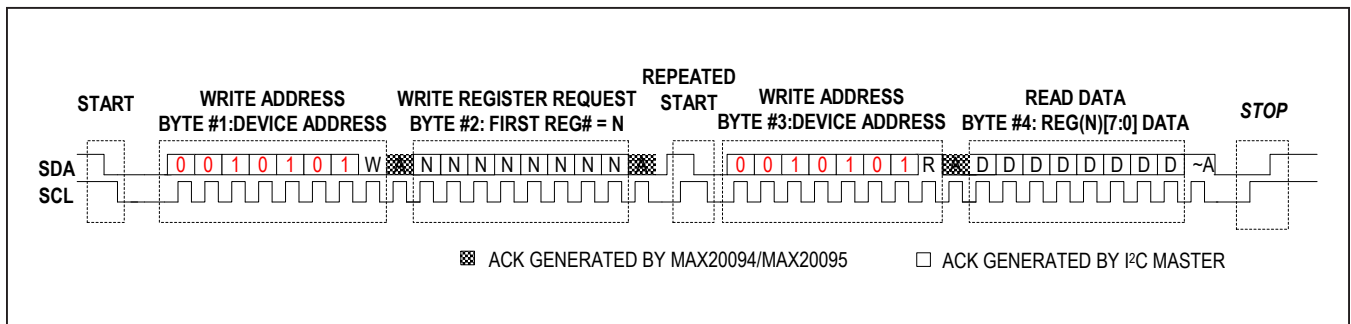

Figure 7. I²C Read Sequence
The ICs support standard combined-format I²C read-mode operations. Each receive sequence is again framed by a START (S) or Repeated START (Sr) condition and a STOP (P). Each byte is 8 bits long and is always followed by an ACK clock pulse, as shown in Figure 7. The first byte contains the address of the device, with $R/\overline{W} = 0$ to indicate a write. The second byte contains the register that is to be read back. There is now a Repeated START (Sr) condition, followed by the device address, with $R/\overline{W} = 1$ to indicate a read and an acknowledge (ACK) clock. The master still has control of the SCL line, but the device takes over the SDA line. The fourth byte in the frame contains the register data readback followed by a STOP (P) condition.